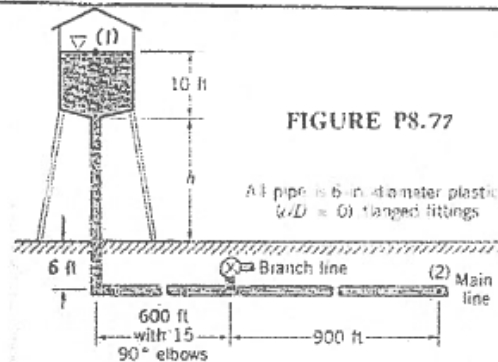

FIGURE P8.77
8.77 The pressure at section (2) shown in Fig. P8.77 is not to fall below 60 psi when the flowrate from the tank varies from 0 to 1.0 cfs and the branch line is shut off. Determine the minimum height, h , of the water tank under the assumption that (a) minor losses are negligible, (b) minor losses are not negligible.